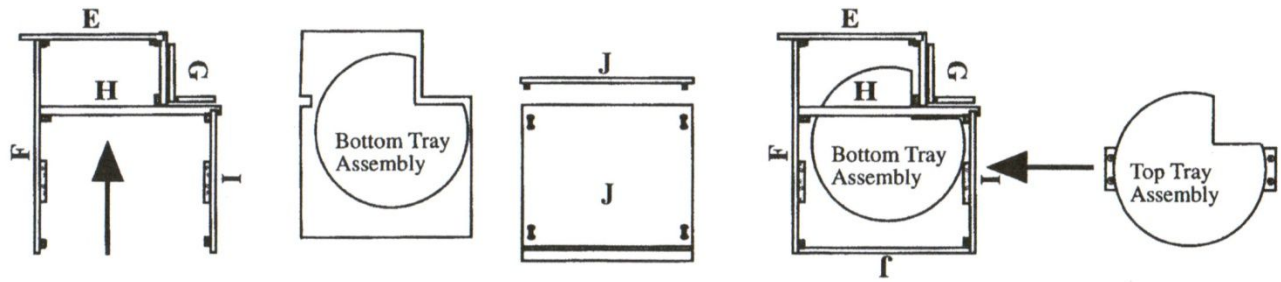

Figure 4
- Step 1. Take the bottom easy turn tray assembly with the tray up and the cut out on the right side and tip on an angle and slide into the assembled cabinet (ref. Figure 4). Once the cut out on the bottom shelf is located around the frame of item H, lower so the bottom shelf fits into the cut slot in items E, F, and I.
- Step 2. Make sure that the bottom tray assembly is complete in position, then place the left side back panel (J) into position, aligning the cam connectors with the connectors in items F and I, making sure that the bottom shelf fits into the cut slot in item J. Once item J is in position, make sure that the cam connectors are flush, then tighten with the screwdriver.
- Step 3. Turn the cabinet upright and position the top easy turn shelf assembly onto the shelf support blocks on items F and I. With the doors closed, align the position of the tray and with eh (4) long screw fasten the top tray assembly to the shelf support block.